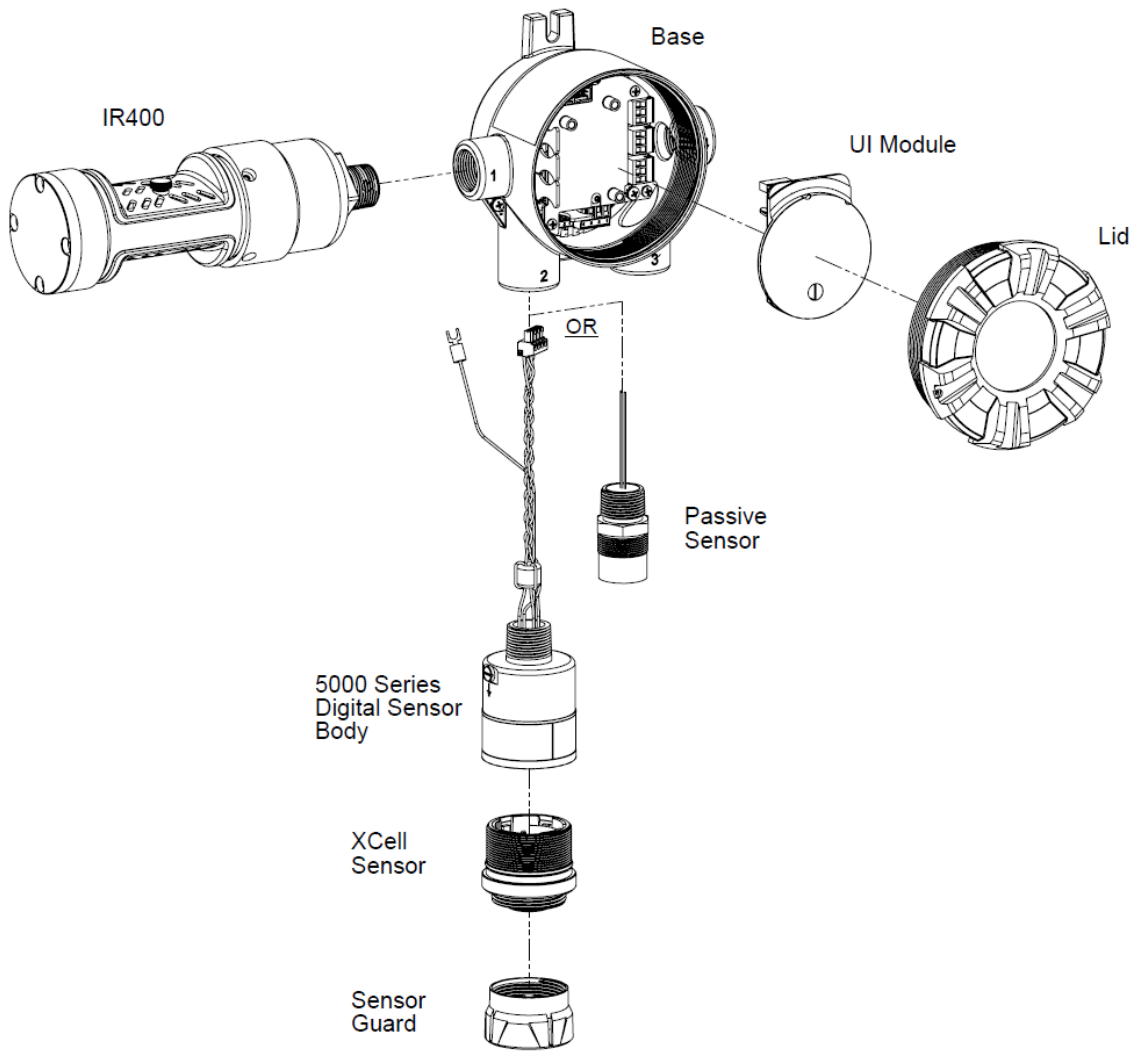

Fig. 3 Exploded View
- ▶ Follow the warnings below when removing or replacing sensors. Reference Fig. 3 for component overview.